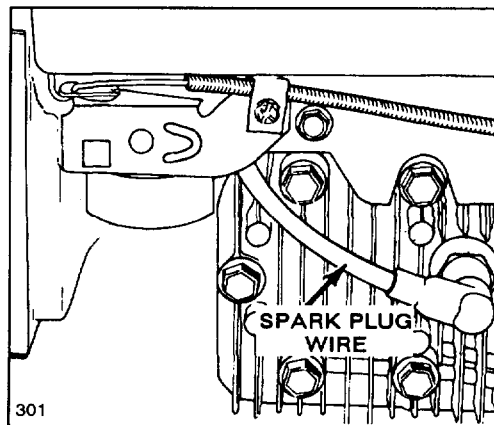

Figure 19
2. Push spark plug wire onto spark plug (Fig. 19).
1. Stop engine and pull wire off spark plug (Fig. 19).
1. Stop engine and wait for engine to cool. Pull wire off spark plug (Fig. 19).